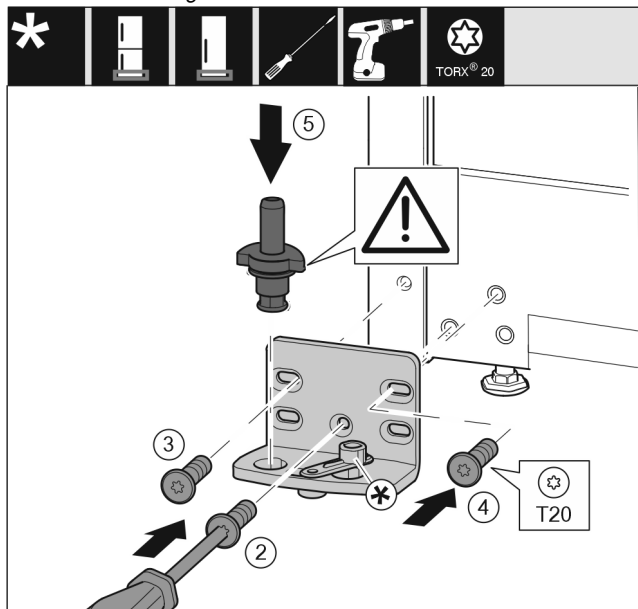

Fig. 48 \*
- ▶ Place the swap bearing block on the other side and use a screwdriver to screw it on. Start with the screw Fig. 48 (2) at the bottom in the middle.\*
- ▶ Tighten screw Fig. 48 (3) and screw Fig. 48 (4).\*
- ▶ Insert the bearing bolt Fig. 48 (5) completely. Ensure that the latching cam is pointing towards the rear.\*